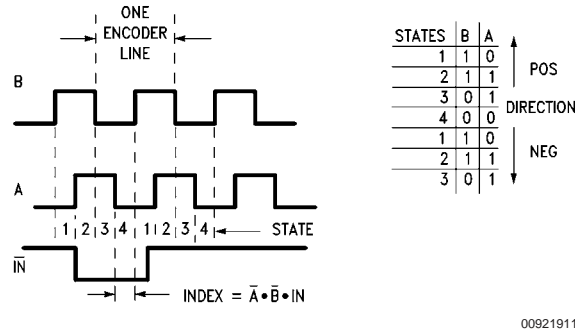

FIGURE 9. Quadrature Encoder Signals
**Pin 1 (17), Index ( $\overline{IN}$ ) Input:** Receives optional index pulse from the encoder. Must be tied high if not used. The index position is read when Pins 1, 2, and 3 are low.
**Pins 2 and 3 (18 and 19), Encoder Signal (A, B) Inputs:** Receive the two-phase quadrature signals provided by the incremental encoder. When the motor is rotating in the positive ("forward") direction, the signal at Pin 2 leads the signal at Pin 3 by 90 degrees. Note that the signals at Pins 2 and 3 must remain at each encoder state (See Figure 9) for a minimum of 8 clock periods in order to be recognized. Because of a four-to-one resolution advantage gained by the method of decoding the quadrature encoder signals, this corresponds to a maximum encoder-state capture rate of 1.0 MHz ( $f_{CLK} = 8.0$  MHz) or 750 kHz ( $f_{CLK} = 6.0$  MHz). For other clock frequencies the encoder signals must also remain at each state a minimum of 8 clock periods.
**Pin 12 (5), Chip Select ( $\overline{CS}$ ) Input:** Used to select the LM628 for writing and reading operations.
**Pin 13 (6), Read ( $\overline{RD}$ ) Input:** Used to read status and data.
**Pin 14 (7), Ground (GND):** Power-supply return pin.
**Pin 15 (8), Write ( $\overline{WR}$ ) Input:** Used to write commands and data.
**Pin 16 (9), Port Select ( $\overline{PS}$ ) Input:** Used to select command or data port. Selects command port when low, data port when high. The following modes are controlled by Pin 16:
**Pin 17 (10), Host Interrupt (HI) Output:** This active-high signal alerts the host (via a host interrupt service routine) that an interrupt condition has occurred.
keep track of the absolute position of the motor. Each time a logic transition occurs at one of the quadrature inputs, the LM628 internal position register is incremented or decremented accordingly. This provides four times the resolution over the number of lines provided by the encoder. See *Figure 9*. Each of the encoder signal inputs is synchronized with the LM628 clock.
The above position, velocity, and acceleration values must be converted to binary codes to be loaded into the LM628. The values shown for velocity and acceleration must be multiplied by 65,536 (as shown) to adjust for the required integer/fraction format of the input data. Note that after scaling the velocity and acceleration values, literal fractional data cannot be loaded; the data must be rounded and converted to binary. The factor of four increase in system resolution is due to the method used to decode the quadrature encoder signals, see *Figure 9*.